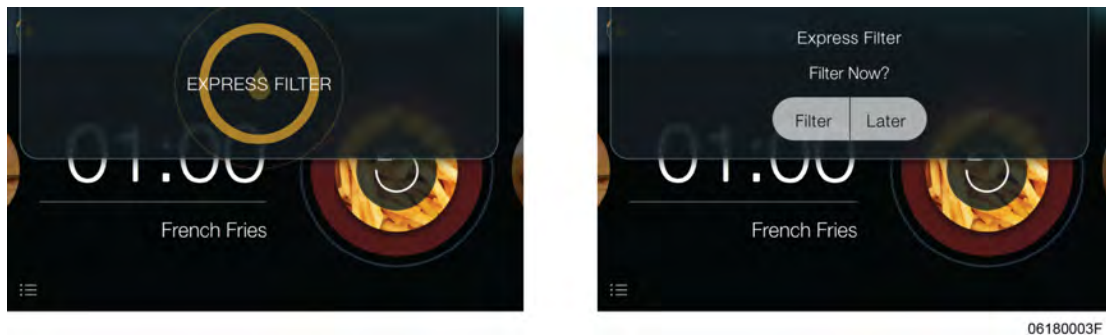

Figure 4-13
The F5 touchscreen control lets team members know approximately how many cooks remain before the next Express Filter both from the oil filter percentage and also from the yellow filter status ring. The filter percentage starts at 100% for each vat, and as product is cooked, this percentage decreases. When the filter percentage reaches 0% in any vat, an Express Filter prompt appears indicating that it is time to filter, see the left image in Figure 4-13, page 30. When performed, the F5 completes the entire Express Filter process, including bringing the oil back to set temperature, in 3 minutes or less with a properly maintained filter pan. As one vat is being filtered, the other vats can still be used for cooking. The Express Filter process is described in the following steps:
- 1) Tap express filter then select **Filter** to filter now, or select **Later** to delay filtration and continue cooking, right image Figure 4-13 , page 30.